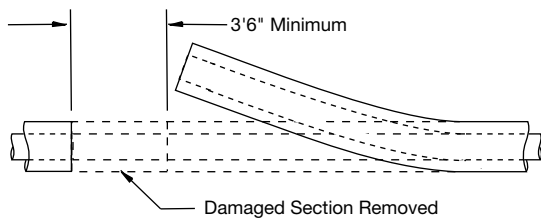

Figure F-115. Remove damaged section of pipe
1. The damaged section of pipe is removed and the area cleared to allow the pipe to move in the radial direction. Note that only one end of the pipe needs this flexibility (Figure F-115).